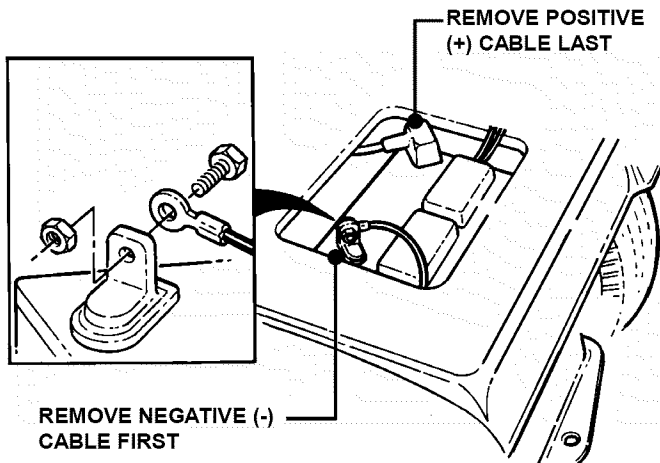

FIGURE 4.42
6. Remove battery. See Figure 4.42.